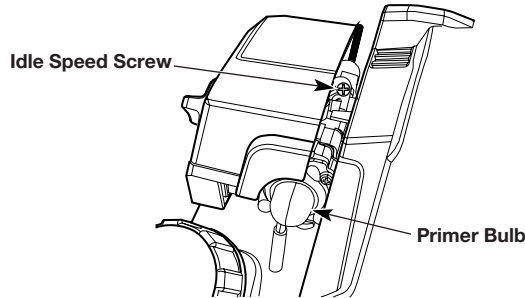

Fig. 24
- If the engine stops, increase the idle speed. Use a small Phillips screwdriver to turn the idle speed screw clockwise, 1/8 of a turn at a time, until the engine idles smoothly (Fig. 24).
- If the cutting head spins when the engine idles, reduce the idle speed. Turn the idle speed screw counterclockwise, 1/8 of a turn at a time, until the cutting head stops moving (Fig. 24).